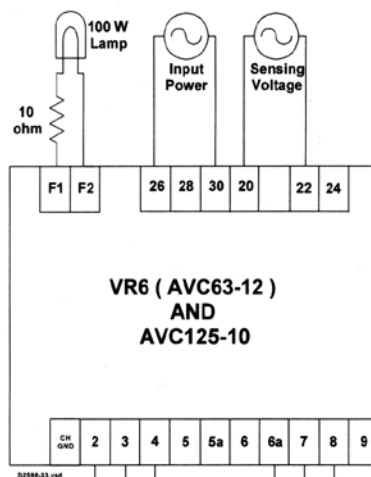

Figure 9. Operational Test Set-Up
- a. Connect the voltage regulator as shown by Figure 9 and apply appropriate voltages.